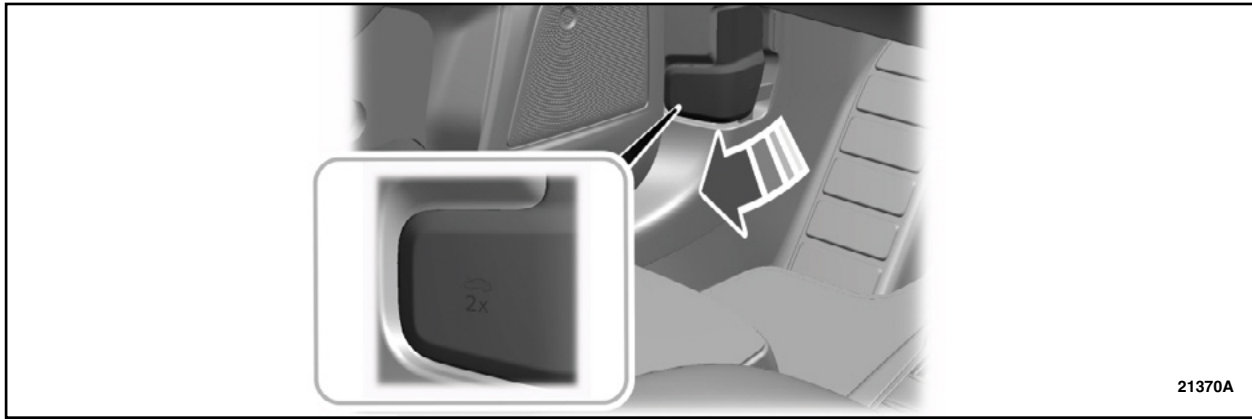

FIGURE 1
2. Fully pull the hood release lever and let it completely retract. See Figure 1.